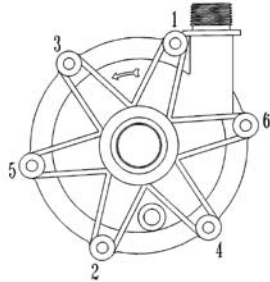

Figure 5
11. Reassemble the wet end by placing the impeller (items 18 and 19) onto the ceramic shaft in the column housing adapter (item 15). Install the housing o-ring (item 16), and lubricate with a compatible lubricant. Align the marks made on the housing (item 21) and the column housing adapter (item 15) during disassembly. Install the impeller housing (item 21) onto the column housing adapter taking care not to dislodge the o-ring. Align the bolt holes and install the six mounting screws (item 22). Use a PTFE thread lubricant on the PVDF screws. Following the pattern in Figure 5, carefully tighten using a screwdriver. Do not over-tighten the screws (recommended maximum torque is 25 in-lbs.) Reach into the suction and spin the impeller with your finger to verify it is not rubbing or binding.